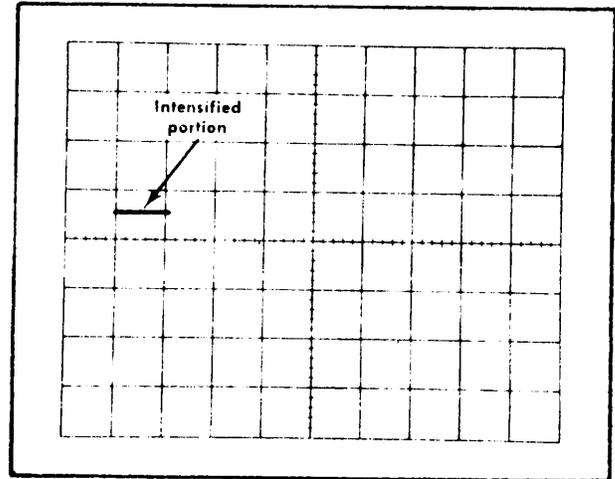

Fig. 5-10. Typical CRT display showing correct intensifier circuit operation.
- c. CHECK-It should be possible to adjust the INTENSITY control so that only the intensified portion of the delaying (normal) sweep is visible on the CRT screen. See Fig. 5-10.